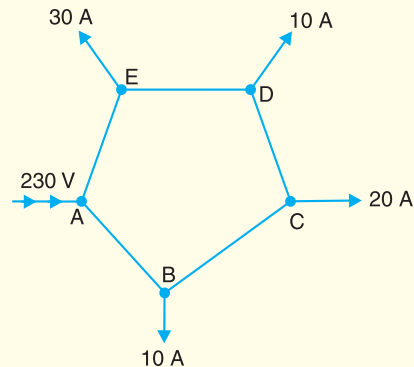

Fig. 13.46
2. A d.c. 2-wire ring main $ABCDEA$ is fed from 230 V supply as shown in Fig. 13.46. The resistance of each section (go and return) AB , BC , CD , DE and EA is 0.1 W. The loads are tapped off as shown. Find the voltage at each load point.